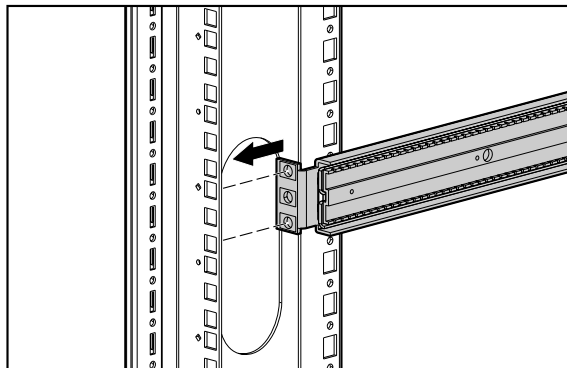

Figure 15: Aligning the bracket face with the rack
- b. Align the three screw-holes on the front-end of the outer-rail assembly with the equally spaced holes on the front of the rack. All three holes must be aligned exactly. If the holes do not exactly match up, the outer-rail assembly is not positioned correctly on the rack (see Figure 15).